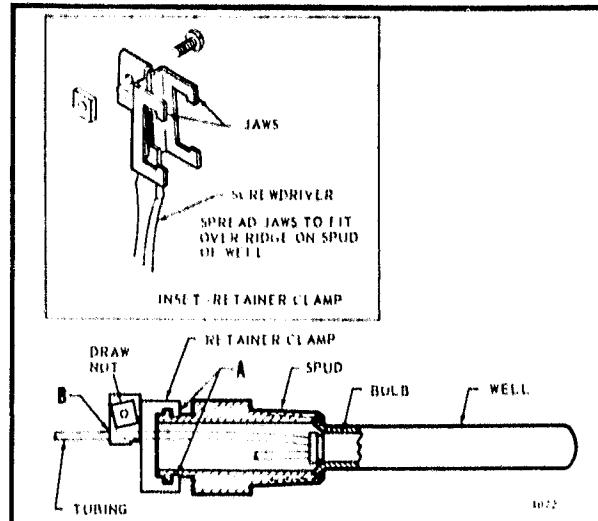
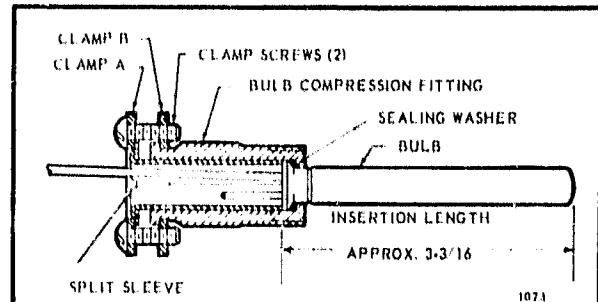
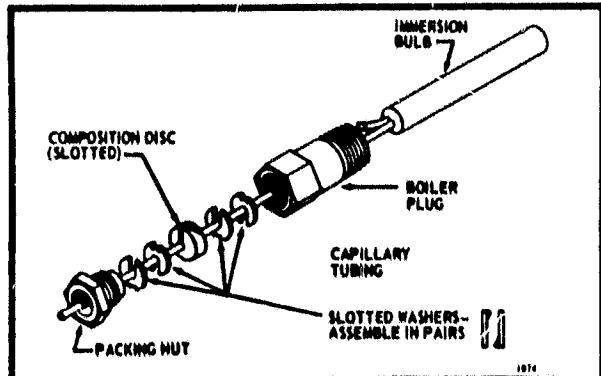

FIG. 5-IMMERSION WELL FITTING.
FIG. 6-BULB COMPRESSION FITTING. USE WITH MODEL L4008A,B,E,J, OR L6008A.
FIG. 7—CAPILLARY COMPRESSION FITTING. USE WITH MODEL L4008C,D,K, OR L6008C,E.
Bulb Compression Fittings (see Fig. 6) —
Capillary Compression Fittings (see Fig. 7) —
The remote temperature-sensing bulb can either be installed in an immersion well (Fig. 5) that extends into the boiler or tank, or it can be directly immersed in the liquid. For installations not using a well, secure the remote bulb with a bulb compression fitting (Fig. 6), or capillary compression fitting (Fig. 7).
Well, bulb compression fitting or capillary compression fitting must be ordered separately. Sizes available: 1/2 in., 3/4 in. NPT spud. Well, if used, must fit sensing bulb snugly for good thermal response. Insert bulb until it rests against bottom of well, then hold it there while tightening the tubing clamp. (See Fig. 5.)
4. Place composition disc and 4 slotted brass washers on tubing in the order shown in Fig. 7. Turn brass washers so that slots are 180 degrees apart.